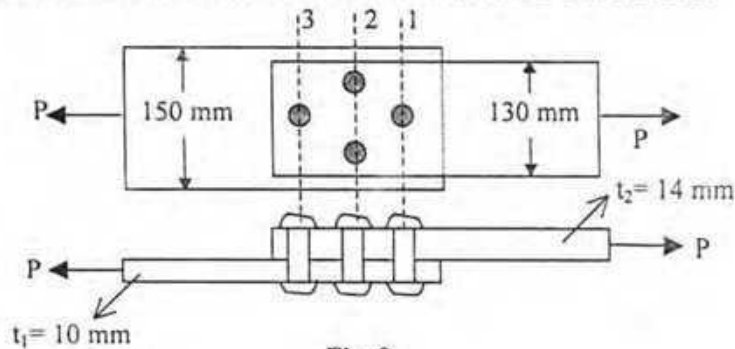

Fig. 9
Q10. Two plates are joined by four rivets 22 mm in diameter as shown in Fig. 9. Find the allowable load P if the allowable stresses are as follows: (10)